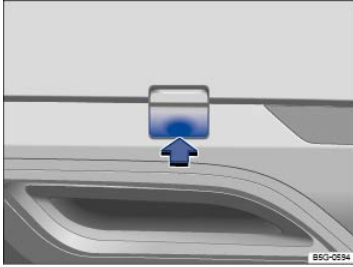

Fig. 205 In the right rear bumper: Removing the cover.
- Push on the cover at the bottom marking ⇒ *Fig. 205* (arrow) so that it pops out.